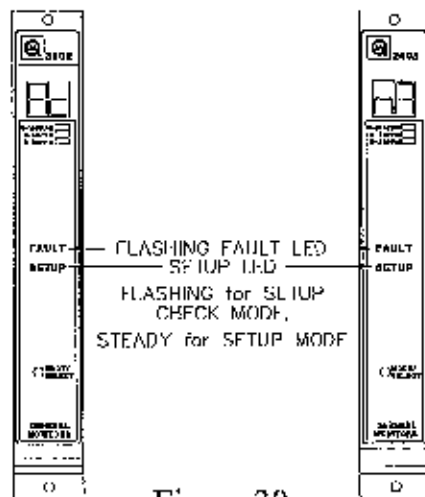

Figure 30
- Next, the user will select the Fault/Inhibit option. The **FAULT** LED on the front panel will be flashing while the display indicates **Ac** or **nA** (figure 30). An **Ac** selection specifies that the Model 2602 will activate the Fault circuit while the unit is in the Inhibit Mode. An **nA** selection specifies that the Model 2602 will not activate its Fault circuit when the unit is placed in the Inhibit Mode. An **nA** selection will not disable the Fault circuit, therefore, if a Fault occurs during the Inhibit Mode, the unit will activate the Fault circuit. Press the Mode/Select switch until the desired option is displayed. Not Active is the factory default for this selection.